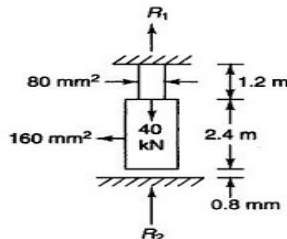

Fig. 1
2. (a) A bar system is loaded as shown in Fig. 1. Determine. (i) the reaction of the lower support, and (ii) the stresses in the bar. Take $E=205 \text{ GPa}$.